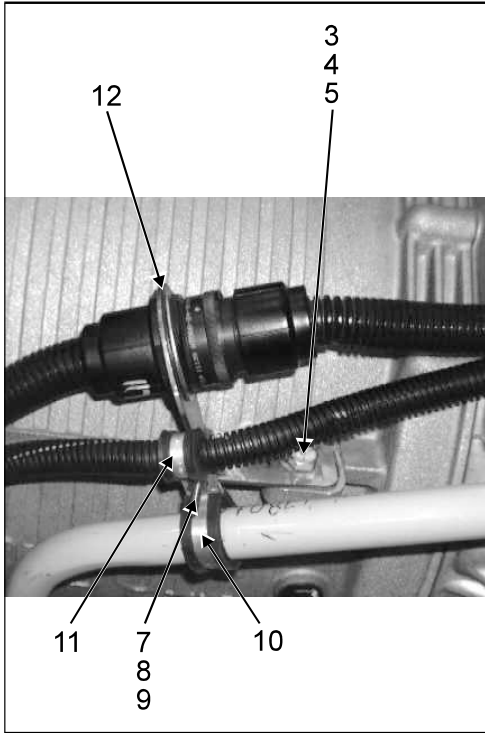
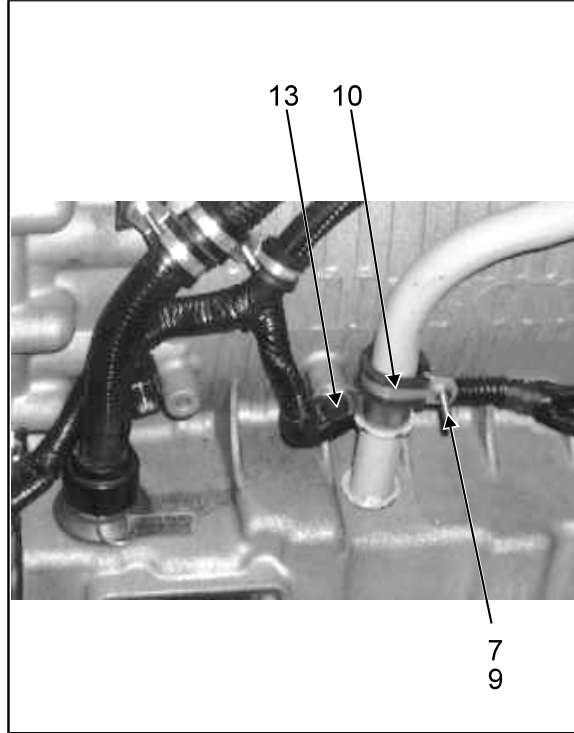

FIGURE 5
FIGURE 6
8. Install bracket (12) on the other transmission housing lug using bolt (3), washer (4) and nut (5). See **Figure 5**. Insert transmission main harness connector in bracket (12) then secure using existing nut and washer. Screw main harness connectors.
9. Secure transmission sensors' harness to oil filler pipe using retaining clips (11 and 10), screw (7), lock washer (8) and nut (9).
10. Attach transmission sensors' harness to transmission housing using retaining clip (13) (**Figure 6**). The retaining clip (13) is fastened with the one used to retain oil filler pipe.
11. Install retaining clip (10) on oil filler pipe using screw (7) and nut (9). The retaining clip screw will be used further in this bulletin to retain both hydraulic hoses.